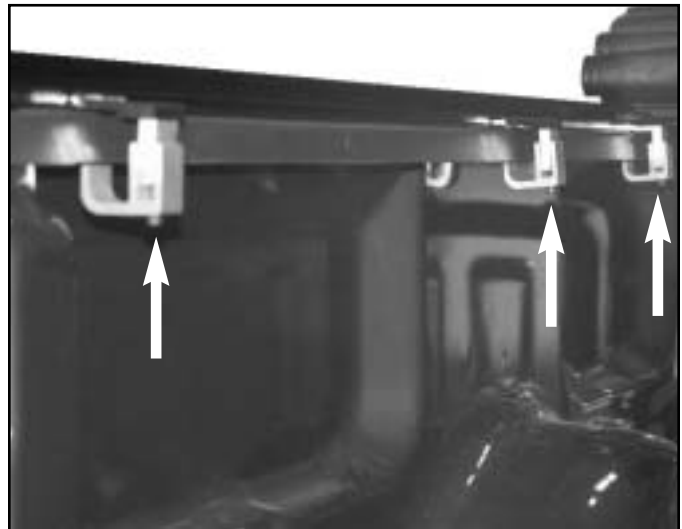

Figure S-2
3. Remove the six (6) lower clamp arm retainer screws and lower clamp arms. See figure S-2.
7. Reposition the upper clamp pieces in their original position and install the six (6) lower clamp arms and retaining machine screws (Do not tighten). See figure S-2.